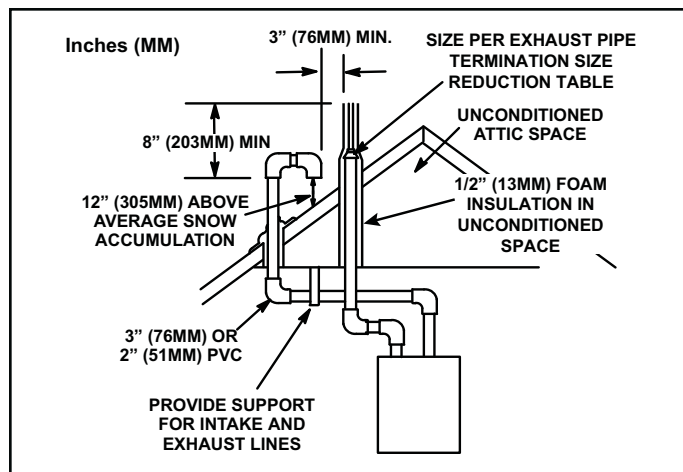

Figure 30. Direct Vent Roof Termination Kit
Intake and exhaust pipes may be routed either horizontally through an outside wall or vertically through the roof. In attic or closet installations, vertical termination through the roof is preferred. Figure 30 through Figure 37 show typical terminations.
3. On roof terminations, the intake piping should terminate straight down using two 90° elbows (See Figure 30).